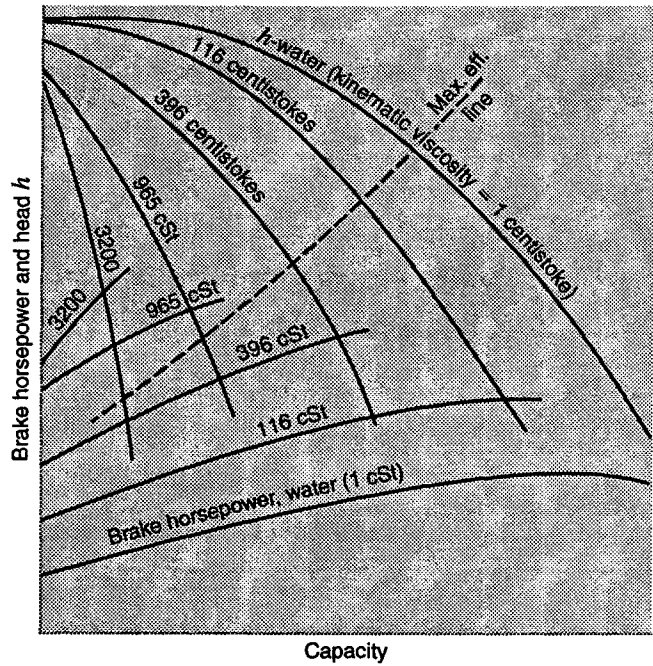

Figure 15.14
15.46 By scaling the necessary data off Fig. 15.14, find the approximate specific gravity of the liquid whose kinematic viscosity is 396 times that of water. Note that the maximum efficiency when pumping this liquid is 18%, and when pumping water it is 85%.
By measuring Fig. 15.14 we find the following ratios at maximum efficiency:
Fig. 15.14 for  $N_s = 5010$ :  $\sigma_c \approx 0.5$